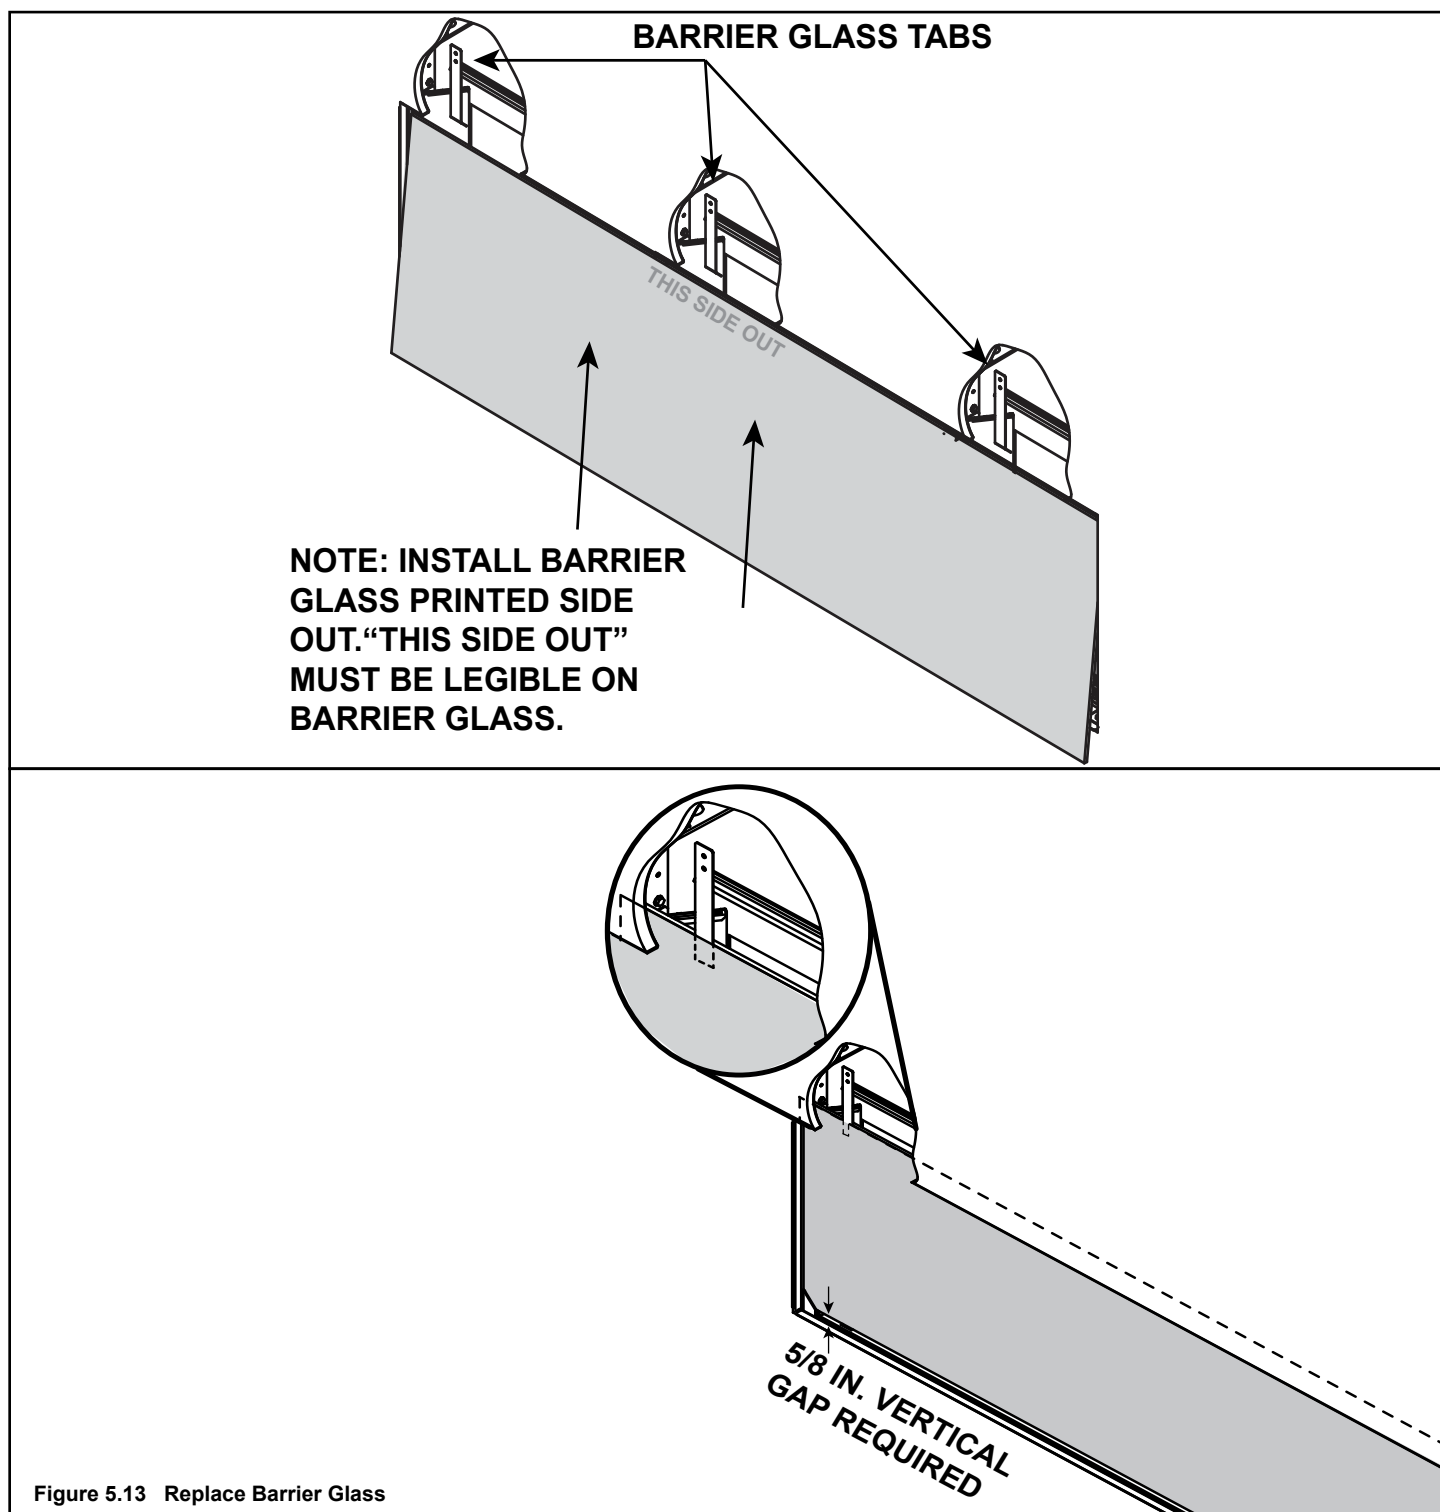

Figure 5.13 Replace Barrier Glass
2. Tilt glass and slide glass between finishing material and barrier glass tabs. See Figure 5.13.
When barrier glass is installed, a vertical gap of approximately $\frac{5}{8}$ inch is formed between the bottom of the glass and the transition media tray. This gap allows adequate air flow through the appliance. See Figure 5.13.
Barrier glass must be installed between the finishing material and the barrier glass tabs. If not installed correctly, appliance will not operate as intended. See Figure 5.13.